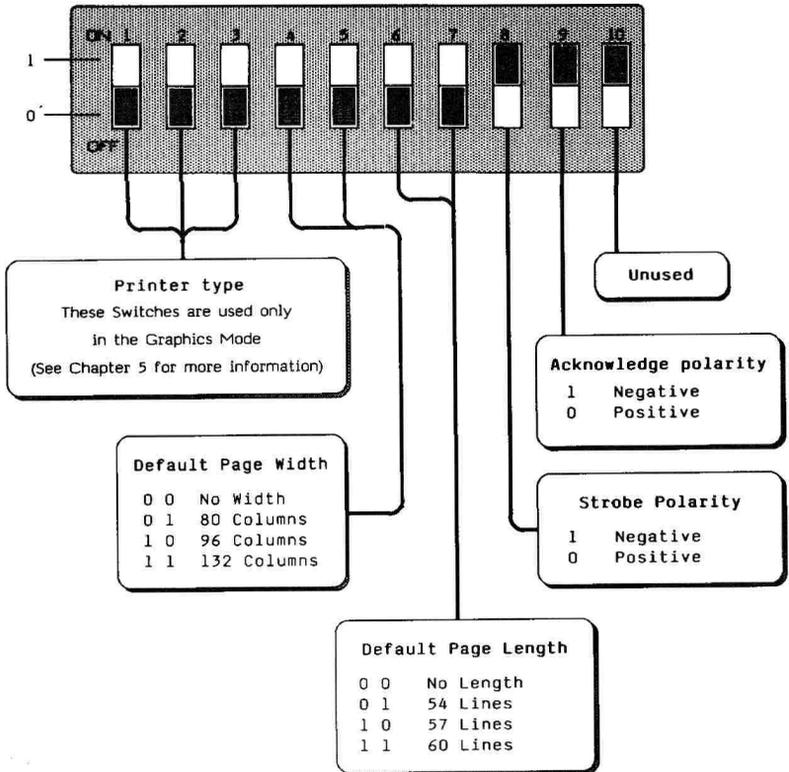

Figure 3.1 Default Switch Settings.
- () Set the Default DIP Switches as shown in Figure 3.1, Section 3.b. Refer to Section 5.a for the settings to use for switches 1-3.
When you activate your UniPrint card (with a 'PR#1' command) your card's firmware will read a set of default values from the Dual In-line Package (DIP) switch on the card. These default values control the manner in which text is printed on your printer. You can change the switch settings if you want to change these default operating modes. The factory-set values of these switches are shown in Figure 3.1. Note that 0 is OFF and 1 is ON.